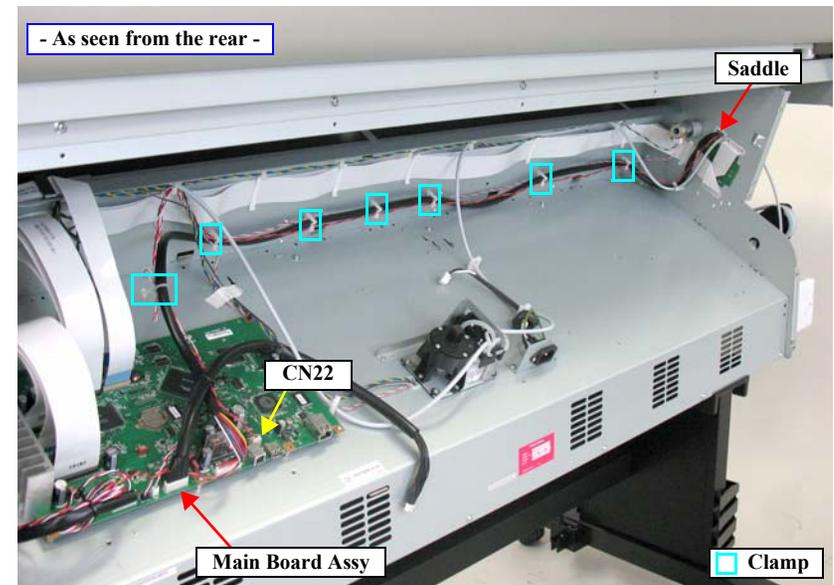

Figure 4-40. Releasing the harnesses
9. Release the cables from the seven clamps and the saddle. See Figure 4-40.